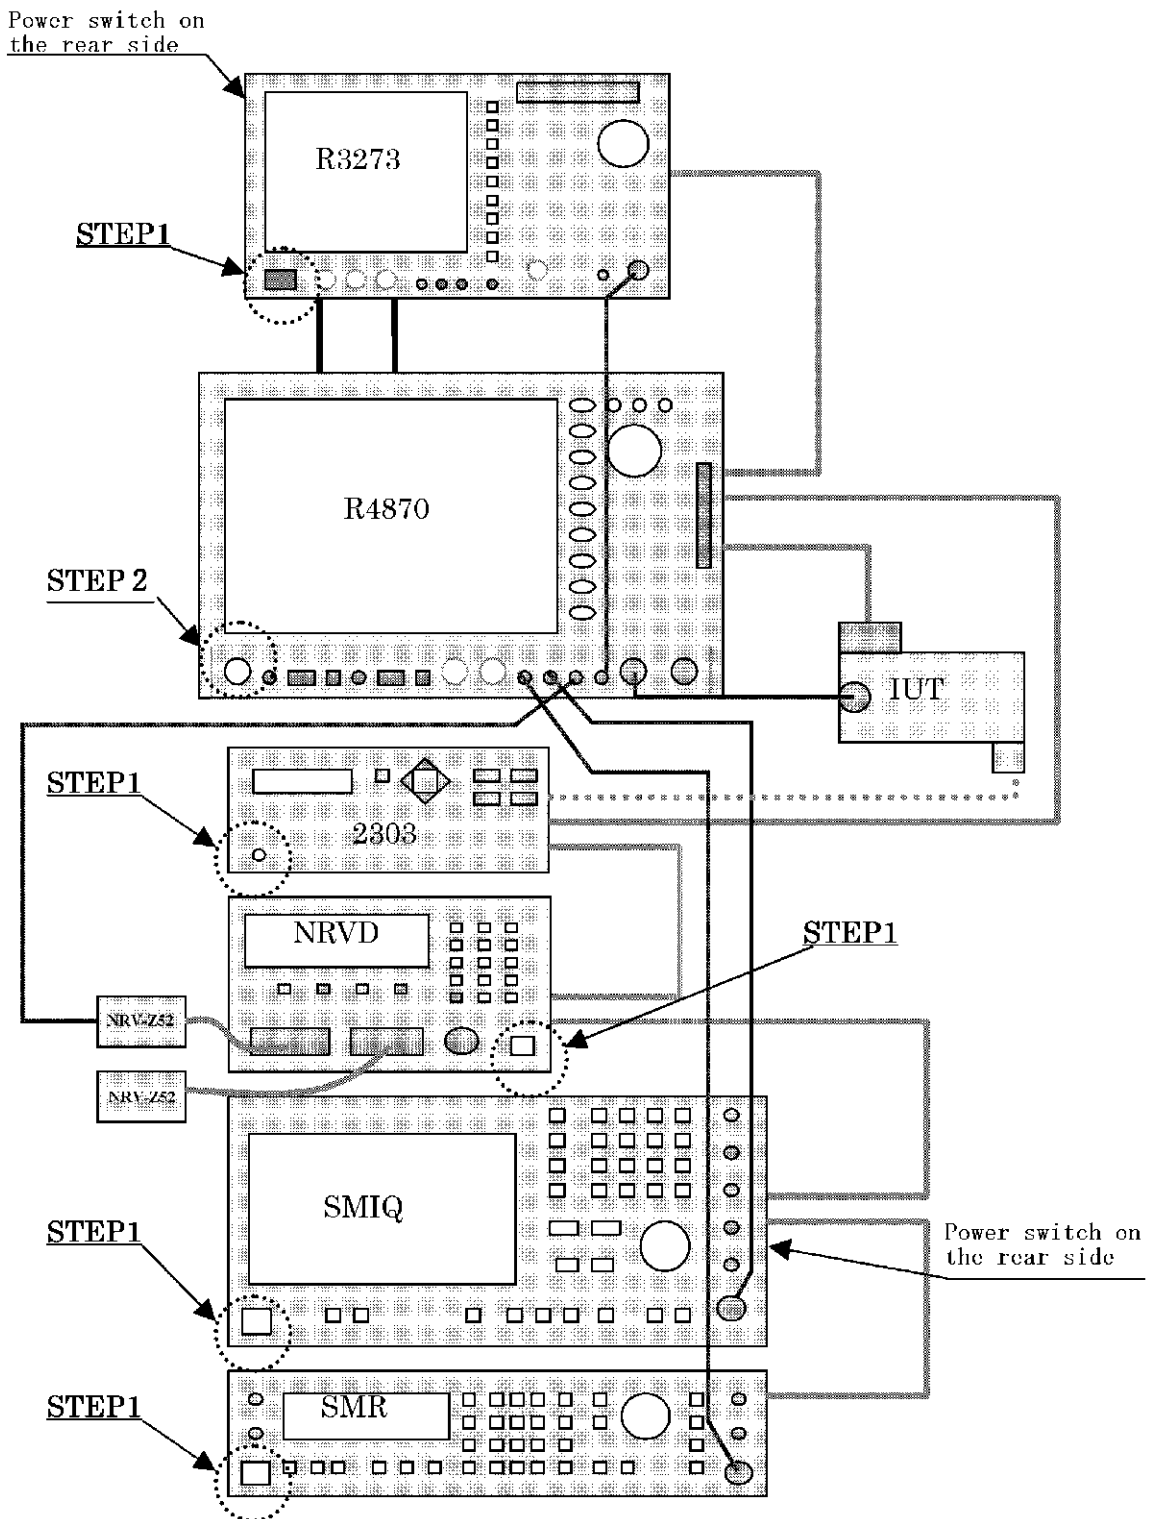

Figure 1-3 Sequence of Turning On the Power to Each Device in the System
1. Turn on the power to the R3273, 2303, NRVD, SMIQ and SMR. (Refer to STEP 1 in Figure 1-3.)
2. Turn on the power to the R4870 after the operation of the device in Step 1 is complete. (Refer to STEP 2 in Figure 1-3.)
The IUT is connected as shown in Figure 1-3.